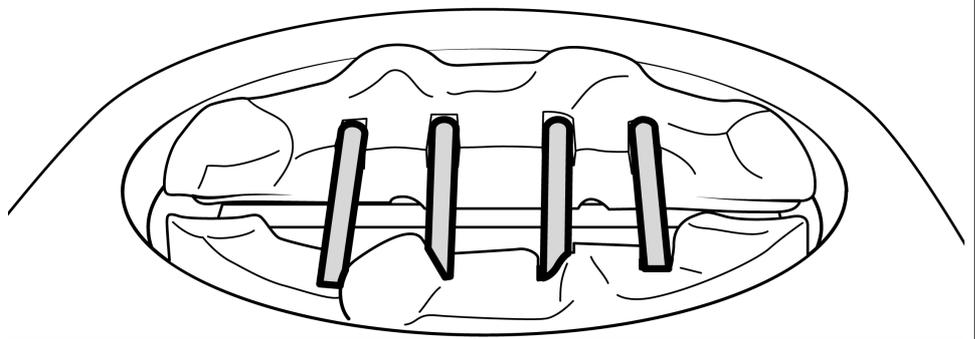

Figure 32 Ceramic support rod Location
3. There are four ceramic support rods. Locate the ceramic support rods into the slots of the ceramic base (See figure 32)